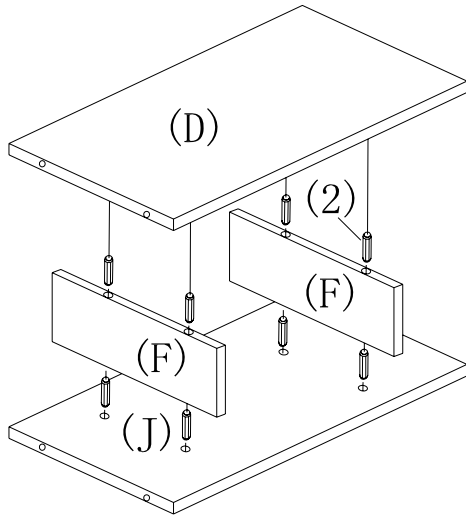

FIGURE 1
3. INSERT WOOD DOWELS (2) INTO PREDRILLED HOLES ON EDGES OF DIVIDERS (F) AND FIT INTO CORRESPONDING HOLES ON UNDERSIDE OF UPPER FIXED SHELF (D) AND UPSIDE OF LOWER FIXED SHELF (J). (AS SHOWN IN FIGURE 1)
4. INSERT WOOD DOWELS (2) INTO PREDRILLED HOLES ON ENDS OF UPPER AND LOWER FIXED SHELVES (D, J) AND FIT INTO CORRESPONDING HOLES ON INSIDE OF LEFT SIDE PANEL (B).